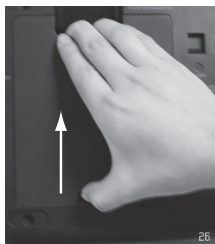

Figure 1
- 1) press the buttons as shown in figure 1 and take up the cable cover to move it.